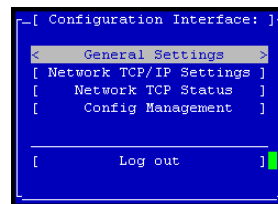

Figure 224. Configuration Interface Main Menu
1. Tab to Login and press Enter. The Configuration Interface main menu opens, shown in Figure 224.